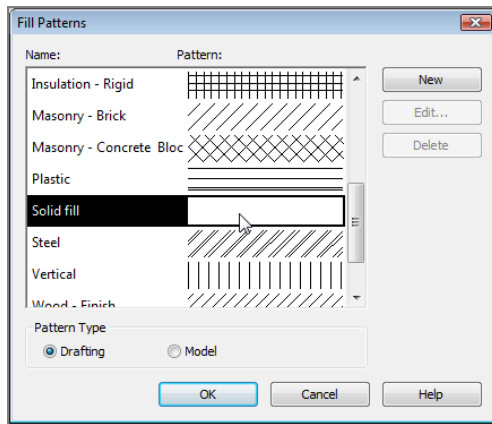

FIGURE 12.25: Select the Solid Fill pattern, and click OK.
7. You can select any hatch pattern you wish. Make sure Solid Fill is selected, as shown in Figure 12.25, and click OK.